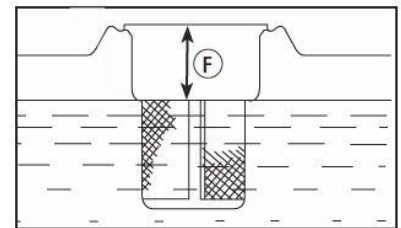

Fig. 5
6. Remove fuel cap and add clean, fresh, UNLEADED fuel. Be careful not to overfill. Allow about 1 in. of tank space (F) for fuel expansion, as shown. (See Fig. 5)